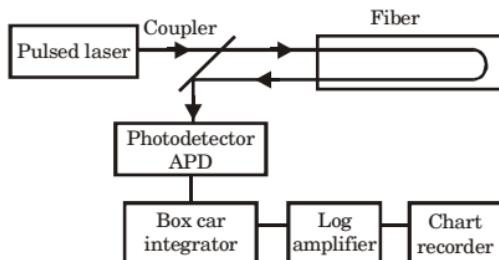

Fig. 15.
4. A block schematic of the backscatter measurement method is shown in Fig. 15.